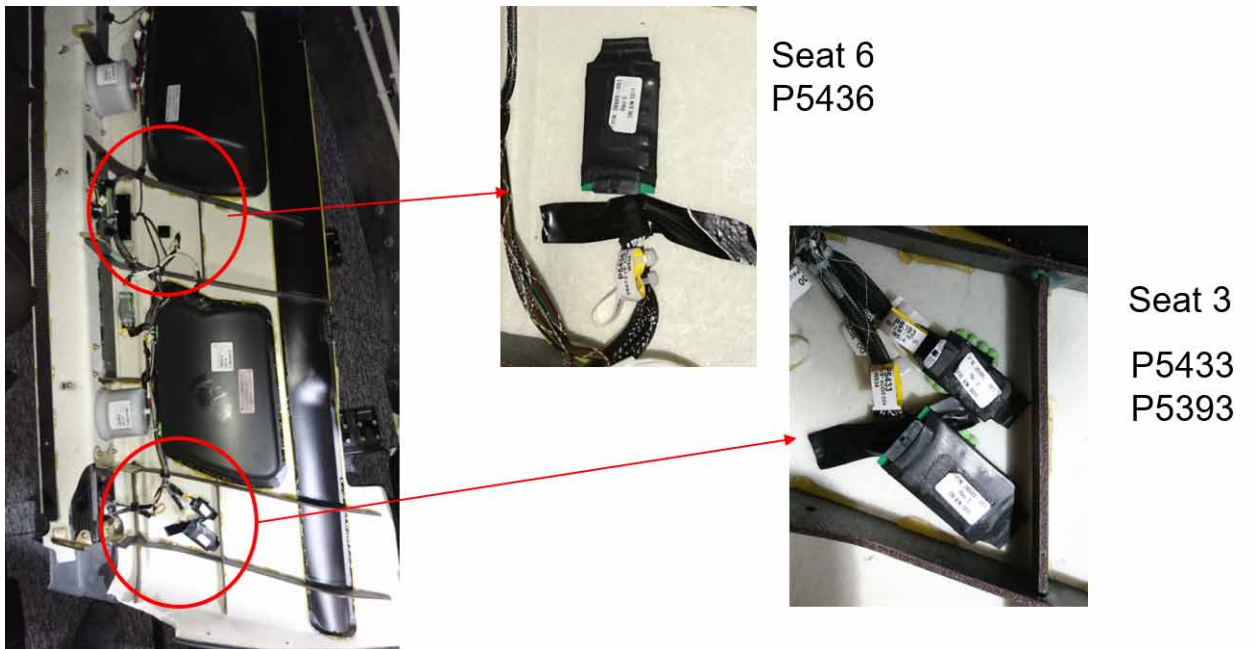

Figure 03
- (1) Locate seat 3 connectors left of seat 3, in forward area of inside wall of LH lower panel. (See Figure 03)
- (2) Locate seat 6 connector left of seat 6, in middle area of inside wall of LH lower panel.
- (3) Disconnect connectors from circuit card assemblies.
- (4) Remove circuit card assemblies from aircraft.
- (5) Cap and stow connectors.
- (6) Label each connector "DO NOT CONNECT SYSTEM DISABLED PER SBA5X-23-03".